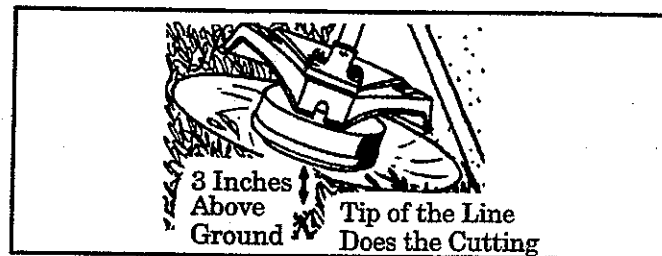

Figure 11
1. **TRIMMING** – Figure 11 . Hold bottom of the trimmer head about 3 inches above ground and at an angle. Allow only the tip of the line to make contact. Do not force trimmer line into work area.